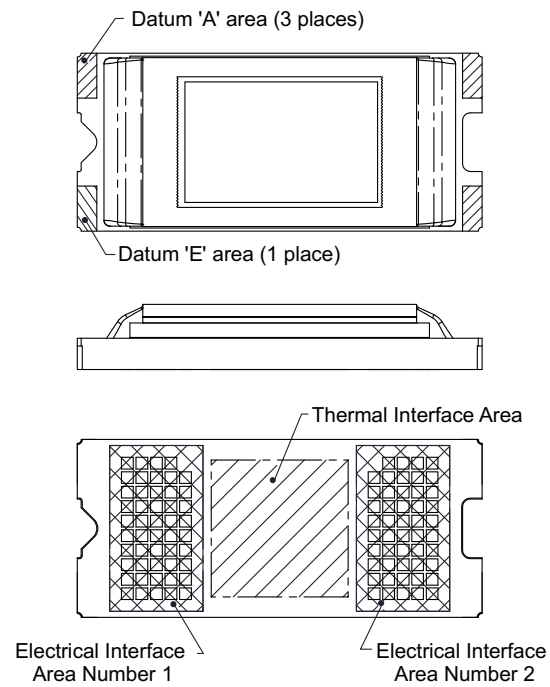

Figure 4. System Interface Loads for FQD
(1) See and Mechanical, Packaging, and Orderable Information for diagrams.
(2) See Mounting Concepts DLP4500FQE.
(3) See and Figure 4 for diagrams.
(4) See Mounting Concepts DLP4500FQD.